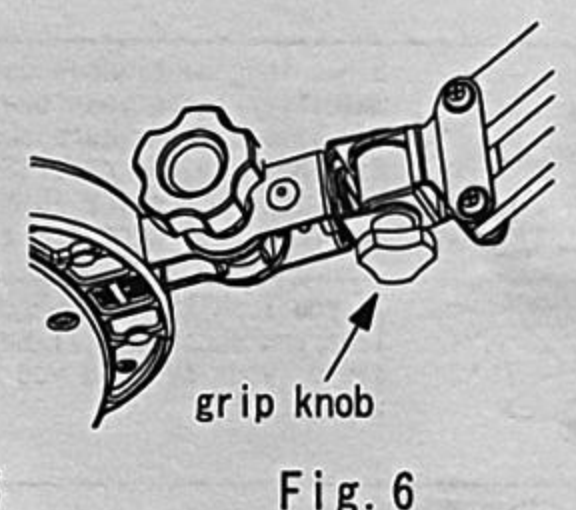

Fig.6
- ② Adjust to the desired tightening force with the lower grip knob shown in Fig.6. **[Note]** If you use it without tightening the grip knob, it may fall unexpectedly onto the object to be observed and damage the object. Pay attention to the looseness of the grip knob.